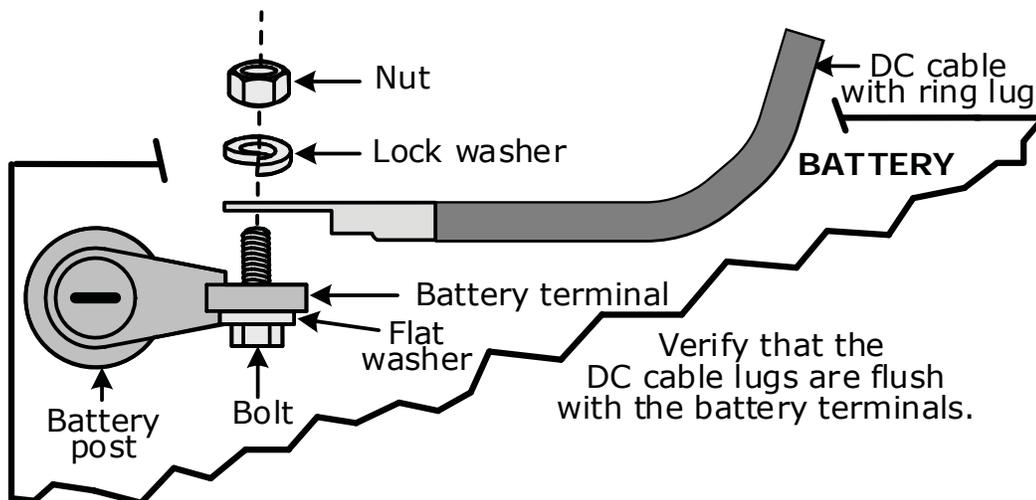
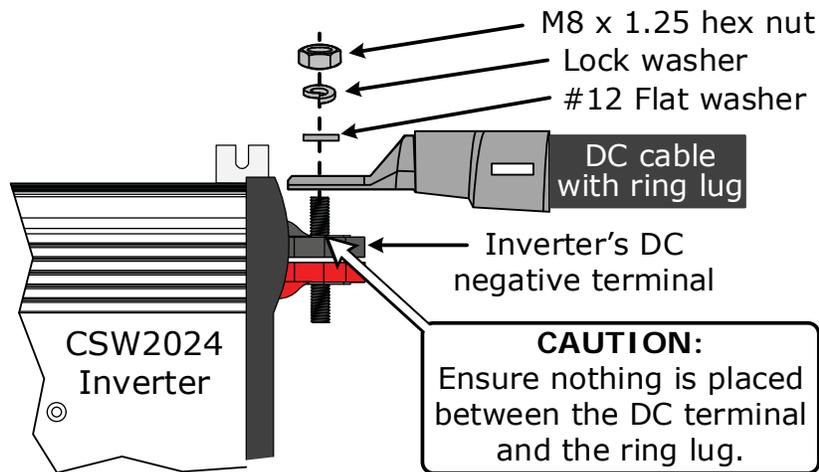

Figure 2-5, DC Cable to Battery Terminals
Figure 2-6, DC Cable to Inverter's DC Terminals
Refer to Figure 2-5 when connecting the DC wires to the battery, and to Figure 2-6 when connecting to the inverter.
Do not put anything between the battery cable ring lug and the battery post (see Figure 2-5), or the flat metal part of the inverter's DC terminal (see Figure 2-6). When connecting the battery cable, it should be placed directly against the battery post or inverter terminal. Incorrectly installed hardware causes a high resistance connection which could lead to poor inverter performance, and may melt the cable and terminal connections. See Table 2-1 for the torque requirements.
5. Ensure DC wire connections (on batteries, inverter, and DC circuit breaker/fuse) are flush on the surface of the DC terminals, and all the connecting hardware are stacked correctly (see Figures 2-5 and 2-6). Verify all DC connections on the inverter are torqued correctly (see Table 2-1), and the total cable distance from the inverter to the battery is within the requirement of Section 2.4.1 (DC Wire Sizing).